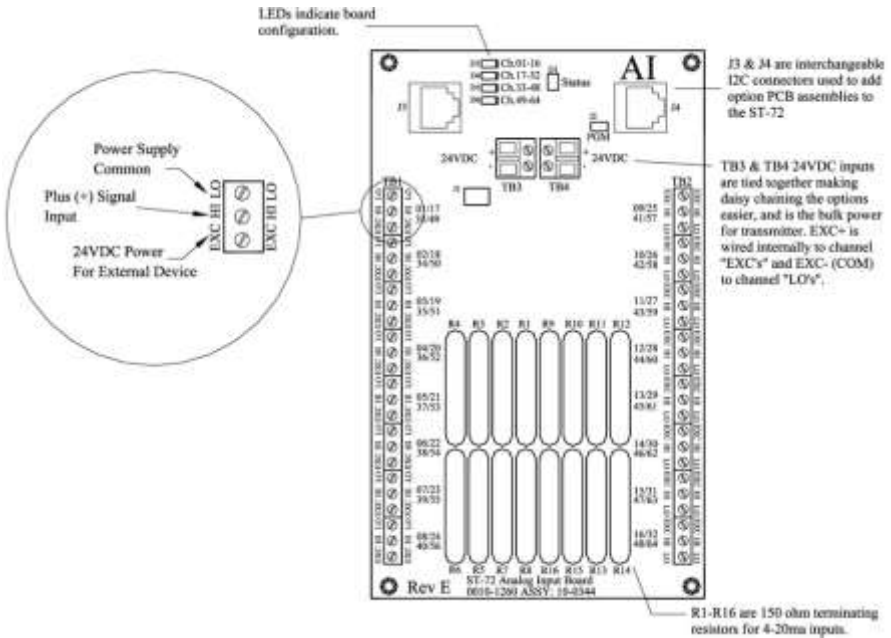

Figure 3-2
Many transmitters or sensors have analog output signals, and the 12 bit *Analog Input Board*, shown in Figure 3-2, is available to accept these. TB1 and TB2, with 24 positions each, offer 3 terminals per channel for distributing power and receiving analog inputs. These are **EXC** and **HI / LO** inputs. TB3 and TB4, with only two positions each, are for daisy chaining the power supply from one option board to another. Precision 150 ohm 5 watt resistors (R1 – R16) between each channel's **IN LO** and **IN HI** terminals are termination resistors for 4-20mA inputs.
**EXC** and **IN LO** terminals are bussed together internally. **EXC** terminals are tied directly to TB3 and TB4 +24 VDC and **IN LO** terminals are tied to TB3 and TB4 power supply common. Bussing allows transmitter power to be brought into the system at a single point (TB3 or TB4) and distributed back out at each channel's **EXC / IN LO** terminals to simplify field wiring. Figure 3-2 includes typical wiring to 2 & 3 wire 4-20mA transmitters.